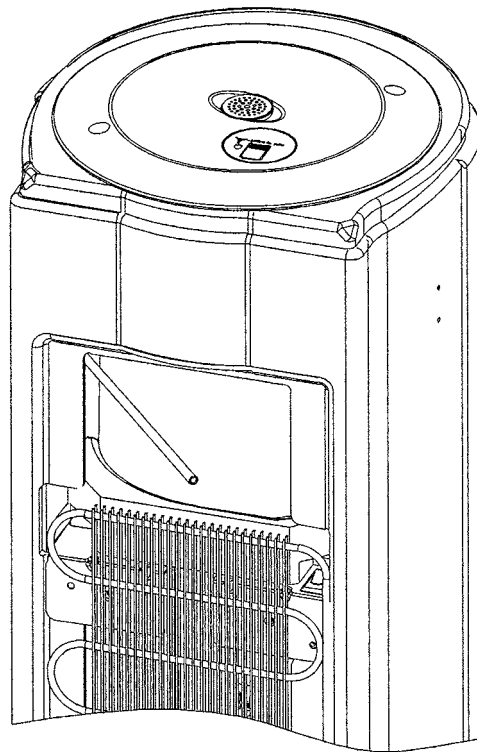

Figure 20.
7. Position the $\frac{1}{4}$ " tubing from the POU kit so that it exits from the rear of the cooler (Figure 20).